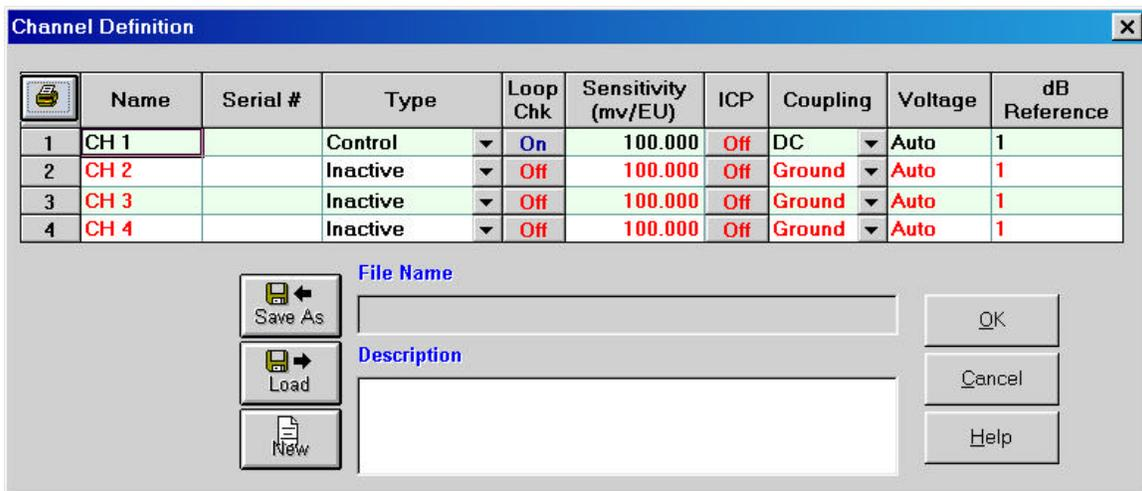
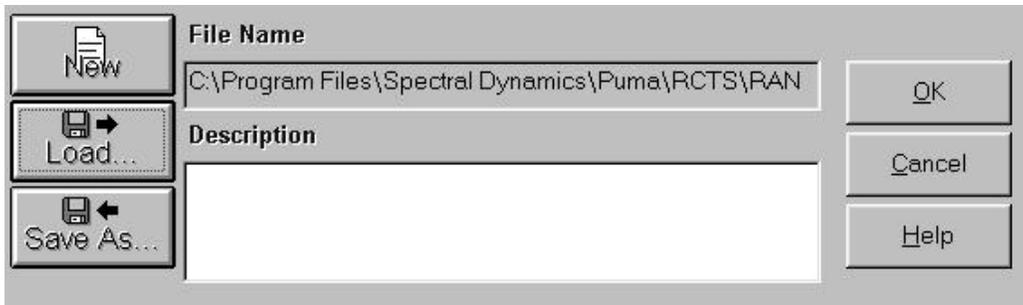

Figure 1-6. Channel Definition Window
Figure 1-11. File Selection Box
1. On the PUMA BASIC Local Screen, click **SETUP** ⇒ **CHANNELS** or click the <**Channel Setup**> Button. The **Channel Definition** Window appears. See Figure 1-6.
Throughout PUMA Basic there is a need to save the parameters of tests, load those same parameters for another test or just start on something brand new. The File Selection Box (FSB) (Figure 1-11) is shown in Figures 1-6, 1-8 and 1-9. It is a common Windows tool and is used throughout the PUMA Basic platform though sometimes the format is somewhat different. The components of the FSB are outlined below for the primary setup areas of Channel Definition, Profile Settings (Pulse Parameters) and Schedule Setup.